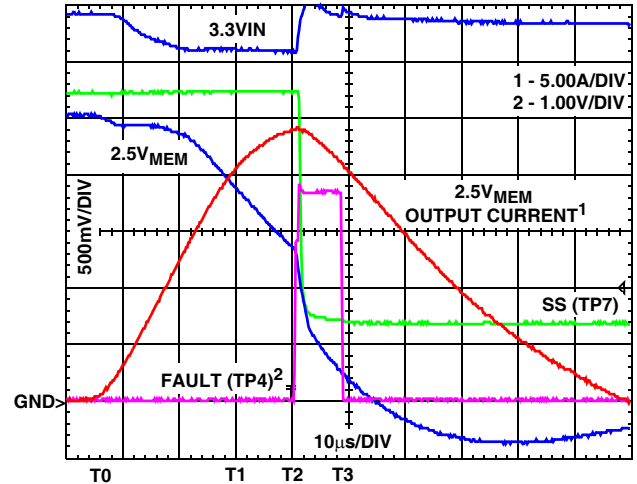

FIGURE 13. HIP6500BEVAL1 2.5V_{MEM} OUTPUT UNDERVOLTAGE RESPONSE WHILE IN ACTIVE STATE (S0, S1)
Figure 13 depicts the circuit's behavior in response to a sudden output short-circuit (output under-voltage), applied, in this scope capture, on the 2.5V_{MEM} output, while operating in active state. At time T0 a short-circuit is applied using an electronic load - as a result, the 2.5V output starts to rapidly discharge, crossing the falling under-voltage threshold at time T1. To avoid false triggers, the UV detector is equipped with a 10μs filter. As the output voltage remains below the undervoltage (UV) threshold for more than 10μs, it triggers a fault response at time T2. The logic high output on the FAULT pin sets the external fault latch circuitry which shuts down the ATX supply and quickly discharges the SS capacitor below the chip shutdown level, reached at time T3. The chip reset disables the fault reporting and the latch maintains the circuit in a reset state. The latch is necessary to compensate for the slow response of the ATX supply, by shutting down the controller IC, along with the pass elements. Depressing the CLEAR FAULT button resets the latch and releases the circuit for operation.